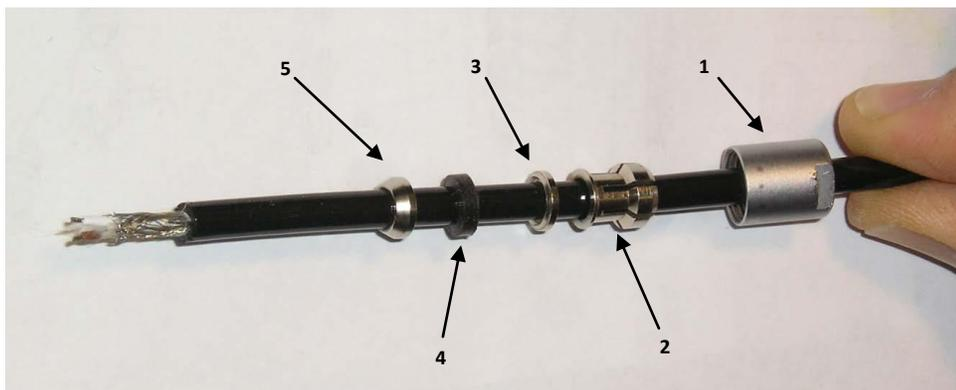

Figure 1
3. Place #1 thru #5 on the cable in order (see Figure 1 below).